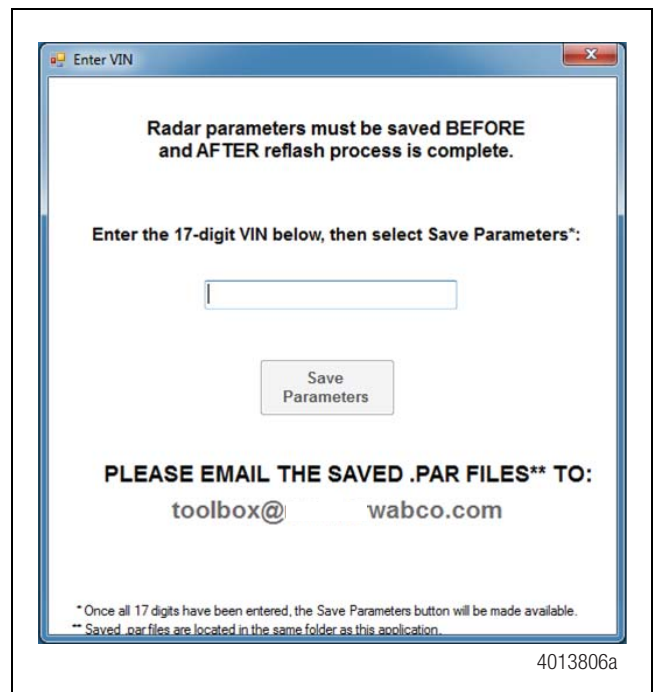

Figure 7
5. When continuing the procedure, the following screen will be displayed. Figure 7.